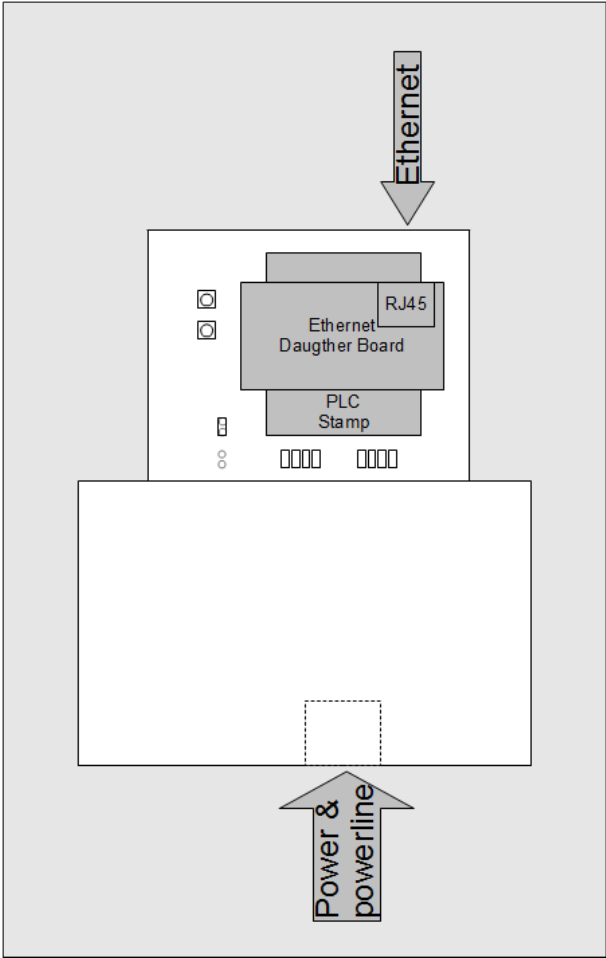

Figure 1: EVB Connections
- place jumper as shown in Figure 1